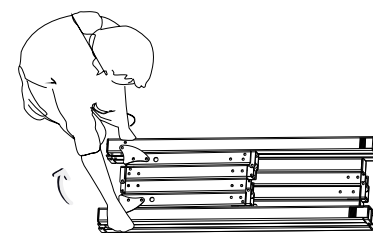

Figure 3
1. Unpack and extend frame on a flat surface (Figure 3 - 4).